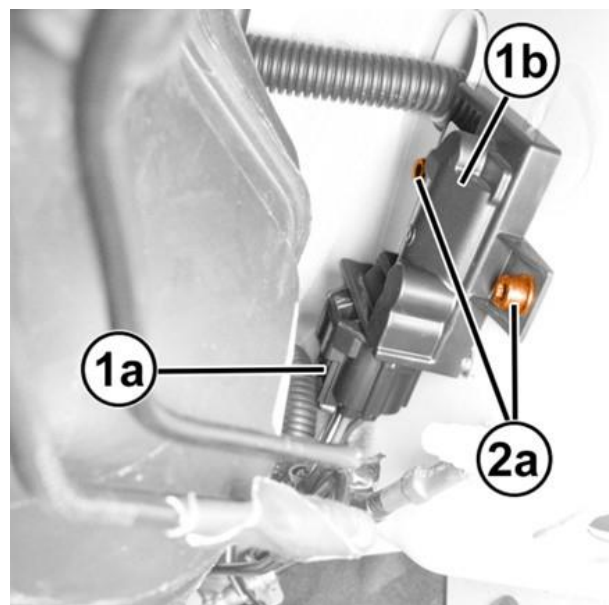

Figure 14 – Electronic Control Unit
2. Connect the wire harness connector (1a) to the ECU (1b) (Figure 14).
3. Install the **NEW** ECU (1b) and securely tighten the screws (2a) (Figure 14).